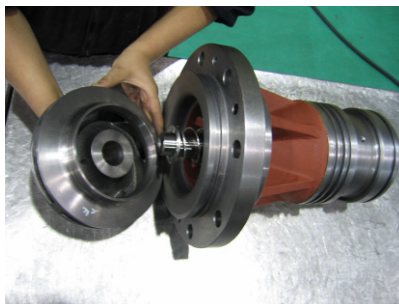

Fig.8 Assembly of impeller and bolt & washer (임펠러, 볼트 그리고 와셔의 조립)
8. In order to remove oil on shaft thread and bolt before loctite coating, degreaser should be sprayed and dried. The impeller is assembled and the bolt is coated with loctite 242 and tighten as shown in Fig.8.